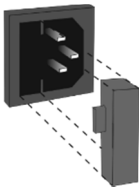
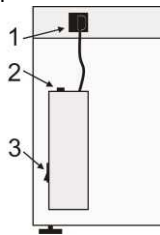
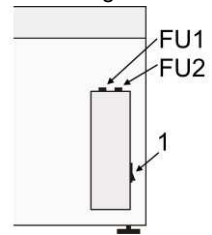

Figure 4.
Figure 5
Figure 6
Note. For **UVC/T-M-AR** and **UVT-B-AR** boxes, check that the short power cable (fig. 5/1) is connecting the fuse box and the controller top.
UVC/T-M-AR, UVT-B-AR – on the right side of the unit, behind the rear wall (fig. 5/3);
UVT-S-AR – on the left side of the unit, behind the rear wall (fig. 6/1).
7.3.1. Fuse for the control box. Disconnect the unit from electric circuit. Remove power cable from its socket on the rear side of the unit. Open the fuse holder by pulling out the holder (fig. 4, compact models) or by screwing off the holder lid marked FU2 (fig. 6, model **UVT-S-AR**). Check the fuse and replace if necessary, **M** 3.15 A (type **M** - time lag: **Medium**).
7.3.2. Fuse for the mains outlets (for models with built-in mains outlets). Disconnect the unit from electric circuit. Open the fuse holder by screwing off the holder lid (fig. 5/2 or fig 6, FU1). Check the fuse and replace if necessary, **M** 5.0 A (type **M** - time lag: **Medium**).